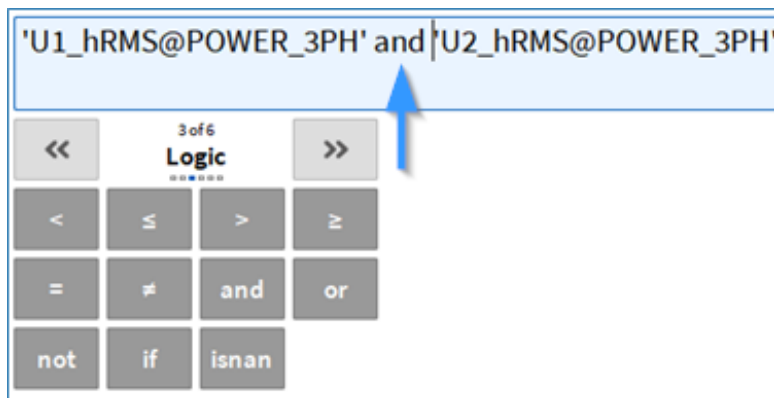

Fig. 7.72: Logic operators in combination with array channels
- Logic operators (see Fig. 7.72)